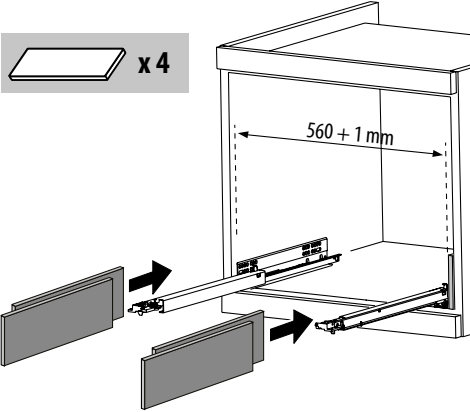

FIG. 6 Product Alignment
1. FILL TANK WITH FRESH WATER : remove the water tank (A12) (fig. 3), open the lid (fig. 4), fill to the MAX line (marked on the inside of the tank) with drinking water (fig. 5), close the lid and put the tank back in the appliance (fig. 6);